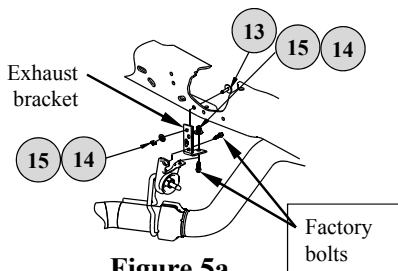

Figure 5a
14. If there is less than 1/2" clearance between the exhaust pipe and the Hide-A-Goose cross members, the exhaust bracket supplied with the 4448 mounting kit must be used (See figure 5a and 5b). For the rear attachment (Figure 5a), fasten the supplied bracket extension to the factory bracket with the factory M8 bolts, then fasten the extension to the frame with the supplied hardware. Reattach the exhaust bracket forward of the axle to the frame cross member with 3/8" spacers sandwiched between the bracket and cross member.